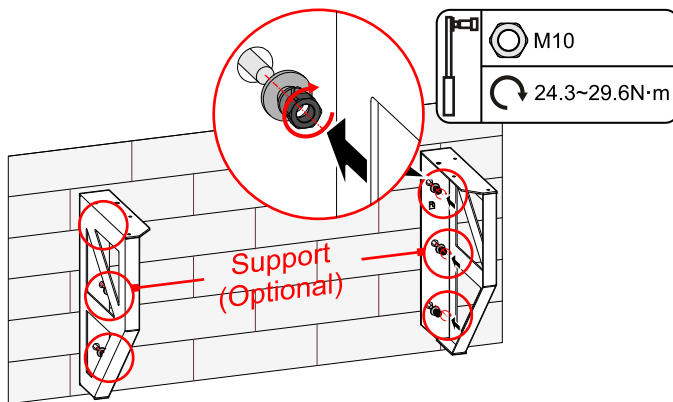

Figure3-21 Mark the installation holes
3. Fix the assembled base by expansion bolt M10, as shown in Figure3-21.